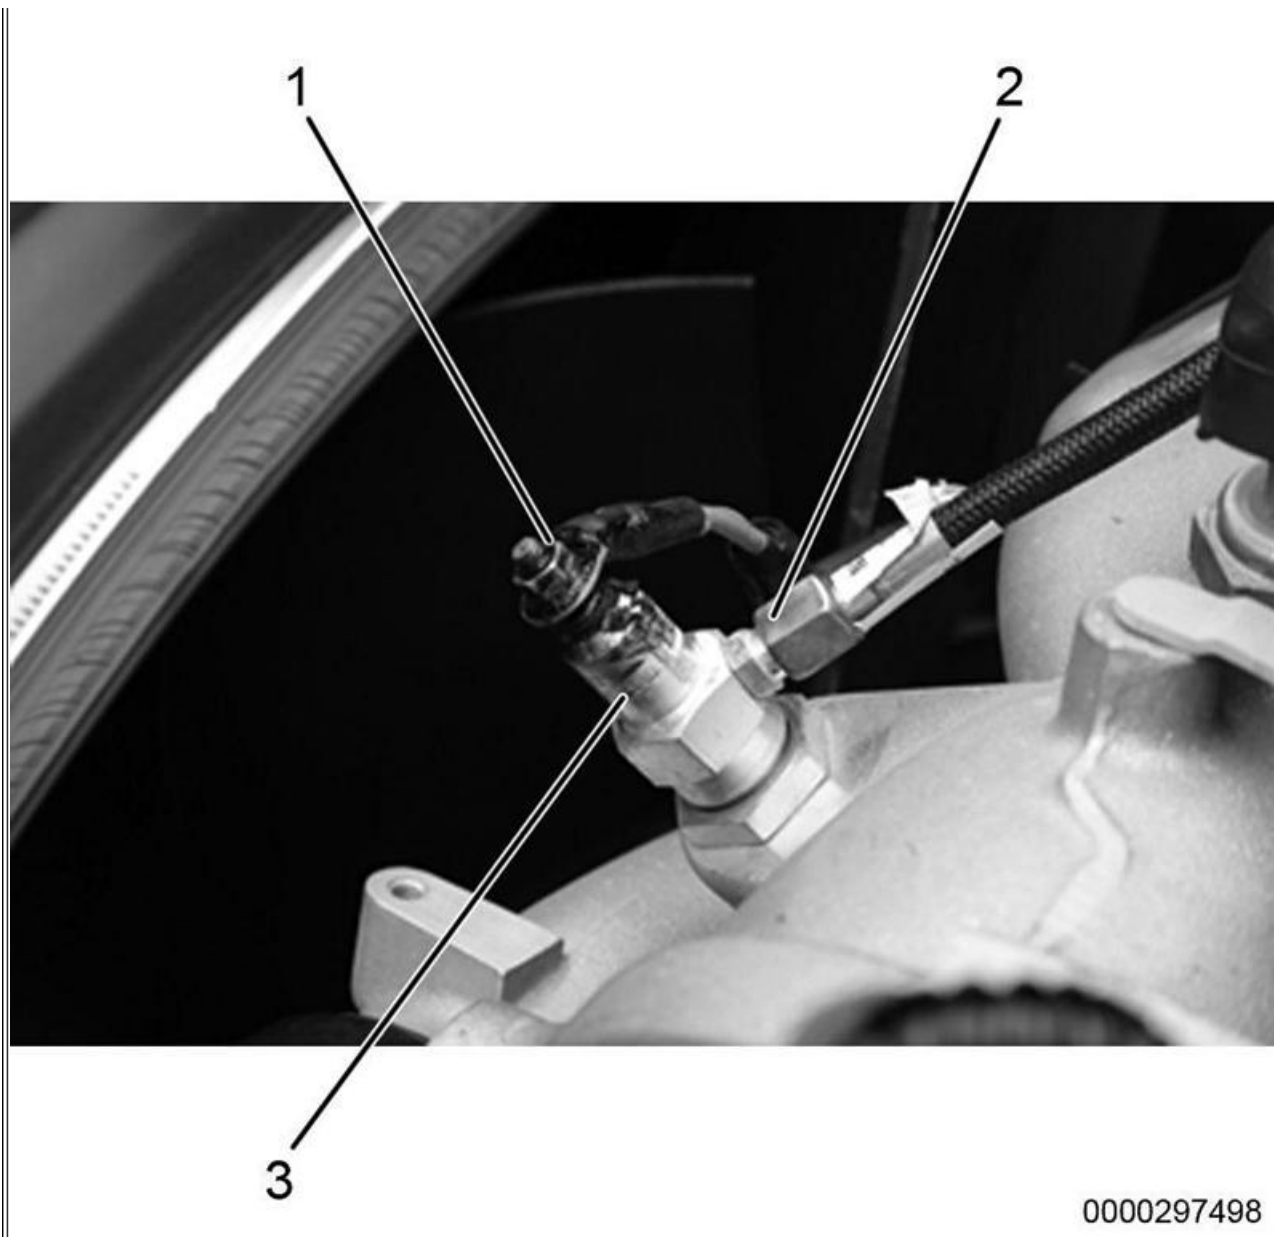

Figure 4: Cold Start Fuel Igniter
17. Remove cold start fuel supply line (Figure 4, Item 2).
18. Remove cold start electrical connector (Figure 4, Item 1).
19. Remove cold start fuel igniter (Figure 4, Item 3).